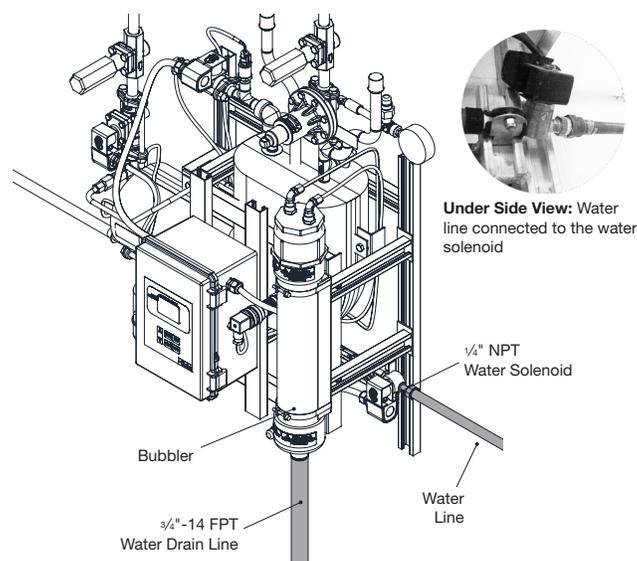

Figure 7: Water Line Connections
8. Purge the water line to remove any contaminants prior to connecting it to the water feed solenoid, highlighted in gray in Figure 7. This will prevent the solenoid valve, flow switch and water lines from becoming plugged. Apply Teflon tape/paste to the 1/4" NPT threaded nipple prior to threading it into the water solenoid.